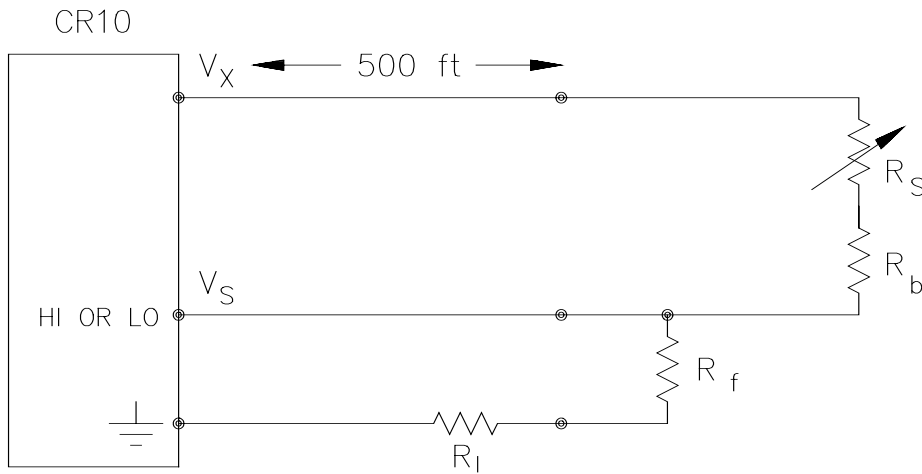

FIGURE 13.3-9. Incorrect Lead Wire Extension on Model 107 Temperature Sensor
6. Most Campbell Scientific sensors are configured with a small bridge resistor, R_f , (typically 1 kohm) to minimize the source resistance. If the lead length of a Campbell Scientific sensor is extended by connecting to the pigtails directly, the effect of the lead resistance, R_l , on the signal must be considered. Figure 13.3-9 shows a Campbell Scientific Model 107 sensor with 500 feet of extension lead connected directly to the pigtails. Normally the signal voltage is proportional to $R_f/(R_s+R_b+R_f)$, but when the pigtails are extended, the signal is proportional to $(R_f+R_l)/(R_s+R_b+R_f+R_l)$. R_l is much smaller than the other terms in the denominator and can be discarded. The effect on the signal can be analyzed by taking the ratio of the signal with extended leads, V_{s_l} to the normal signal, V_s :